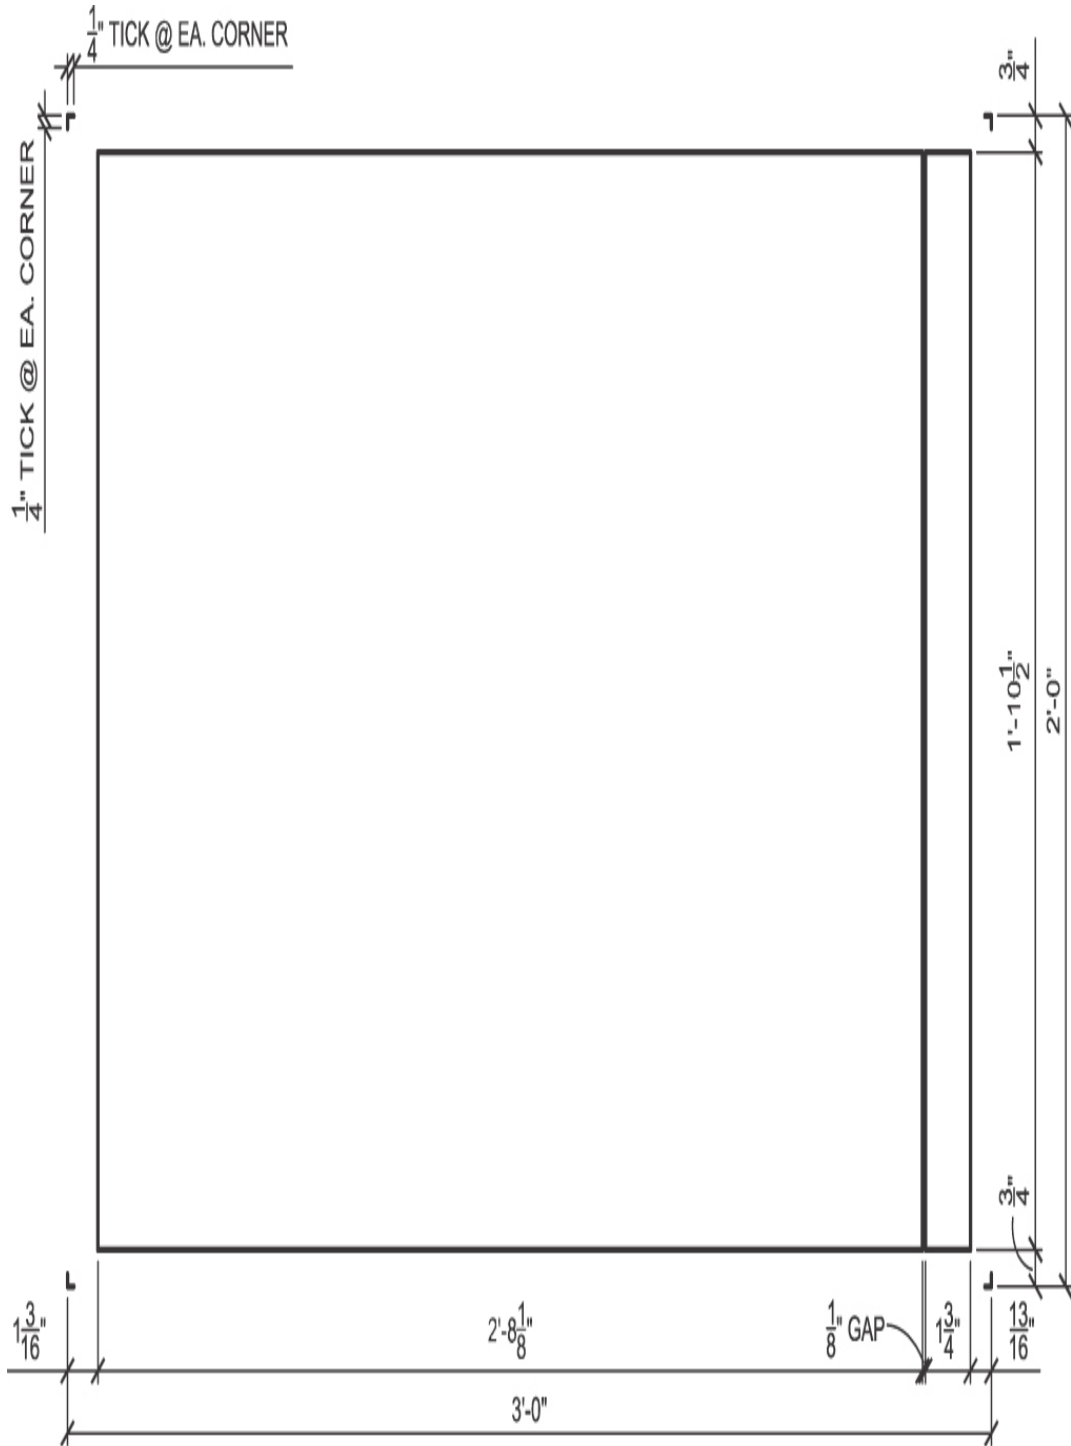

Figure 4-38
5. Draw the border as shown in Figure 4-38. **Do not** draw dimensions.